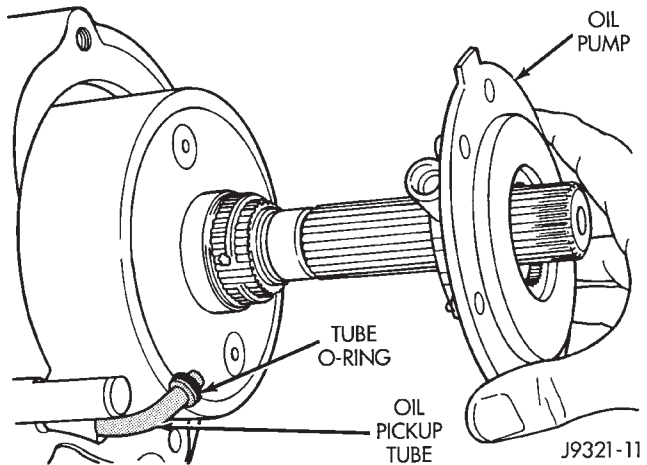

Fig. 11 Removing Oil Pump
(11) Disengage oil pickup tube from oil pump and remove pump assembly (Fig. 11).